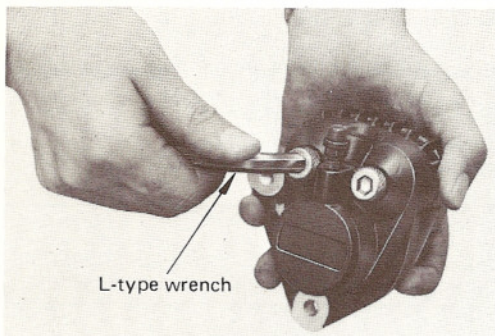

Fig. 4-4-2
- 1) Unscrew the caliper axle bolts with a special tool (8 mm hexagon L-type wrench 09900-06904) and separate the inner caliper body from the outer body as shown in Fig. 4-4-2.